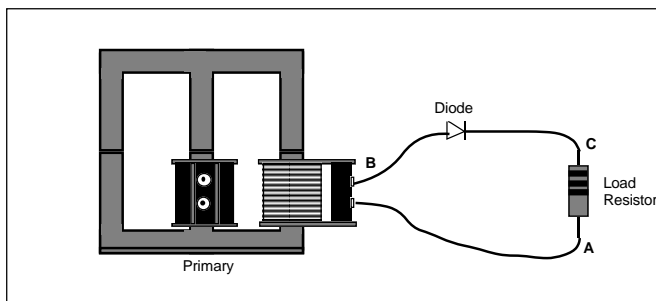

Figure 3
- In this step, set the triggering of your oscilloscope to "LINE". This stabilizes the sweep so that it is synchronized with the a.c. line voltage. Now connect the ground lead (often a clip lead) from your oscilloscope to point A in Figure 3, and the probe to point B. Note the waveform. With the probe at point C, again note the waveform and also any differences between that and the one found at point A. How would you describe this difference?